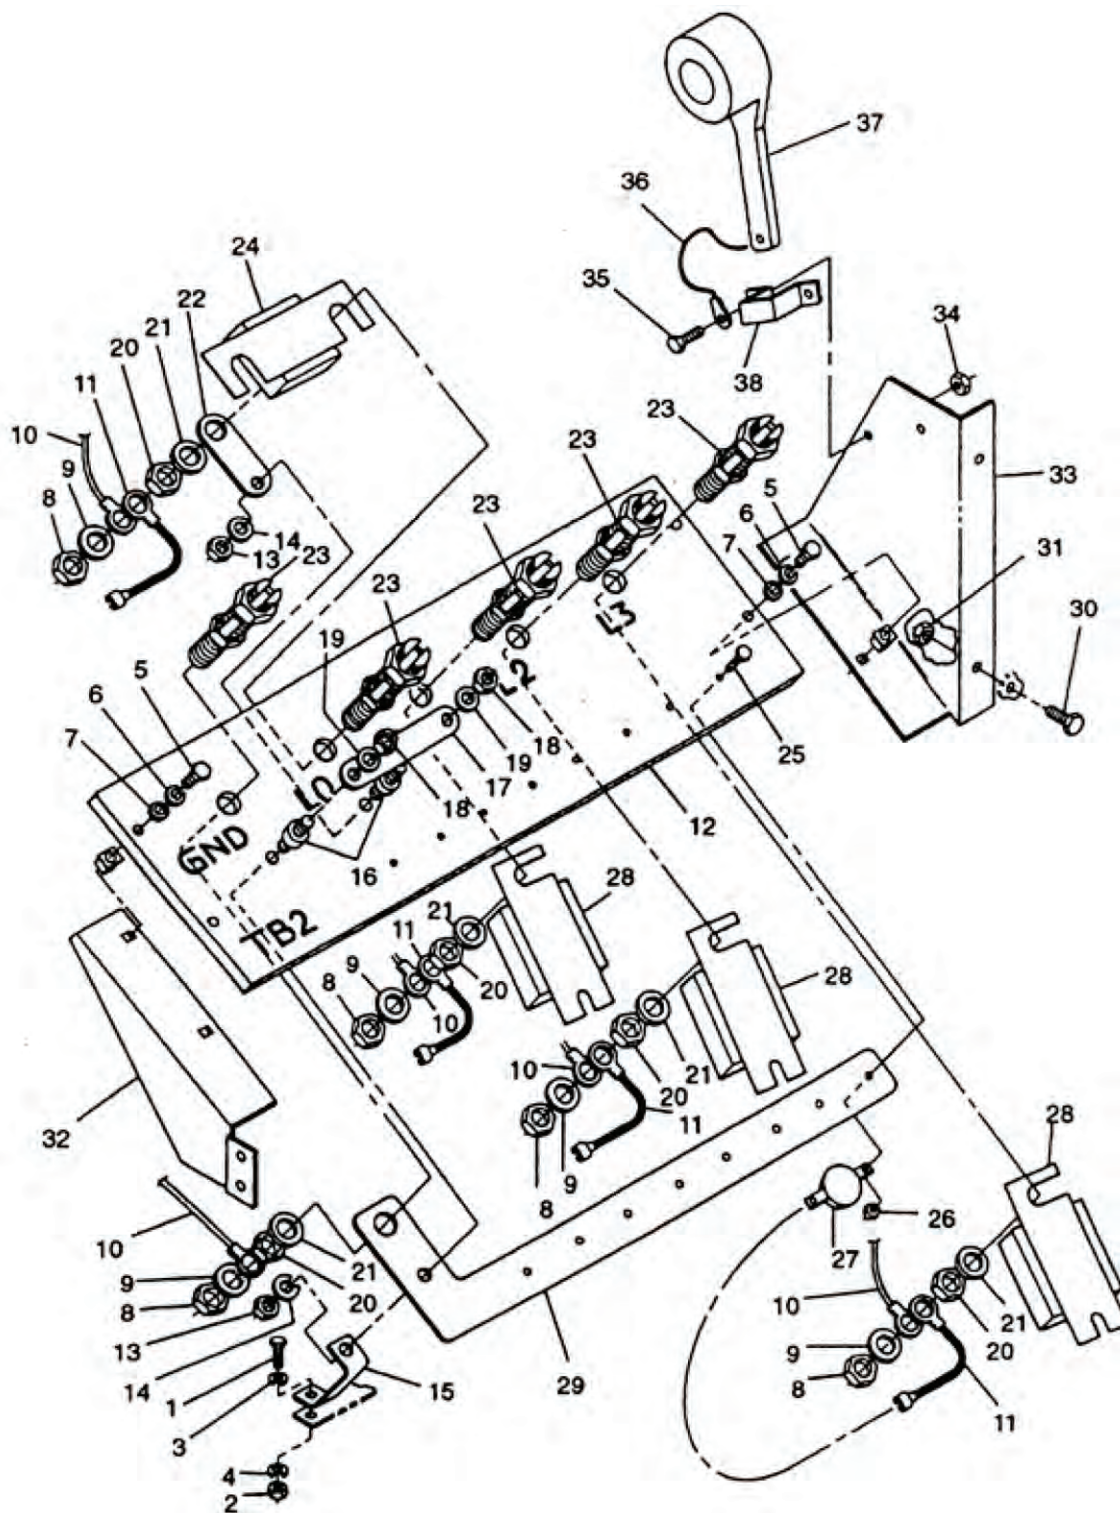

Figure 1. Load Terminal Board Assembly.
5. Remove bolt (Figure 1, Item 1), nut (2), flat washer (3), and lockwasher (4) securing ground strap (15) to skid base. Discard lockwasher (4).
6. Remove bolts (5), lockwashers (6), and washers (7) securing terminal board assembly (12) to supports. Discard lockwashers (6).
7. Remove nuts (8) and washers (9). Tag and disconnect all main power leads (10) and varistor leads (11) from load terminals (23).
8. Remove terminal board assembly (12) from generator set.
10. Remove EMI filter (24) positioned between L0 and GND terminals (23).
11. Remove varistor leads (11) from varistors (27). Remove varistors (27) (WP 0108, Removal).
12. Remove EMI filters (28) positioned between load terminals (23) and varistors (27).
13. Remove nuts (13), washers (14), ground strap (15), studs (16), bus bars (17 and 22), and ground plane bar (29) from terminal board (12).
14. Remove nuts (18) and washers (19) from studs (16).
15. Remove bolts (30), nuts (31), and load output terminal board supports (32 and 33) from generator set.
1. Install load output terminal board supports (Figure 1, Items 32 and 33) in generator set with bolts (30) and nuts (31).
2. Install ground plane bar (29), bus bars (17 and 22), and ground strap (15) on terminal board (12) with studs (16), washers (14 and 19), and nuts (13 and 18).
3. Position EMI filters (28) between varistors (27) and L1, L2, and L3 load terminals (23) mounting holes.
4. Install varistors (27) (WP 0108, Installation).
5. Position EMI filter (24) between L0 and GND terminals (23) mounting holes.
7. Connect leads (11) to varistors (27).
8. Position load output terminal board assembly in generator set and connect varistor leads (11) and main power leads (10) to load terminals (23) with washers (9) and nuts (8). Remove tags.
9. Secure terminal board assembly (12) to supports (32 and 33) with washers (7), new lockwashers (6), and bolts (5).
10. Apply a thin coat of antiseize compound (WP 0159, Item 7) to skid at ground strap (15) attaching point.
11. Install bolt (1), flat washer (3), new lockwasher (4), and nut (2) securing ground strap (15) to skid base.
5. Remove nuts (WP 0106, Figure 1, Item 20), copper washers (21), and load terminals (23) from terminal board assembly (12).
1. Install load output terminals (WP 0106, Figure 1, Item 23) on load output terminal board assembly (12) with copper washers (21) and nuts (20).